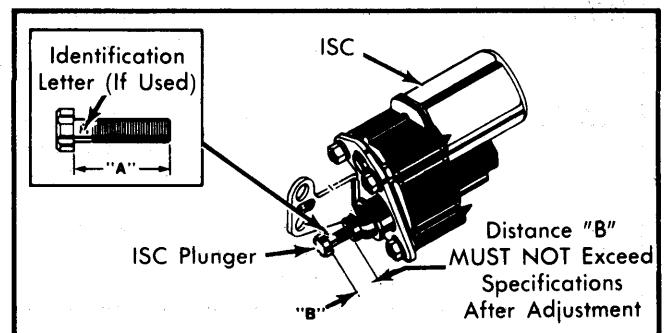

Fig. 4 Measuring Idle Speed Control Plunger
Idle Speed (With Idle Speed Control) — 1) Prior to making adjustments, check for an identification letter on ISC plunger. See Fig. 4. If no letter appears, remove plunger and measure length of plunger (distance "A" in Fig. 4). Record measurement. Install plunger into ISC and position so that distance measured from back side of plunger to ISC is less than distance "B" listed in Idle Speed Control Plunger chart.
6) After adjustment, measure distance from back of plunger head to ISC motor (distance "B" in Fig. 4). Distance must not exceed distance listed in Idle Speed Control Chart.